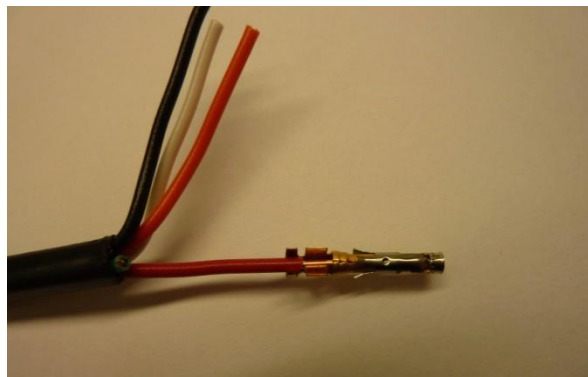

Figure 21: Wire properly inserted into circular socket crimp contact
Step 3: Place stripped wire into circular socket crimp contact such that insulated wire is present at the first crimp location and bare wire is present at the second crimp location (Figure 21).